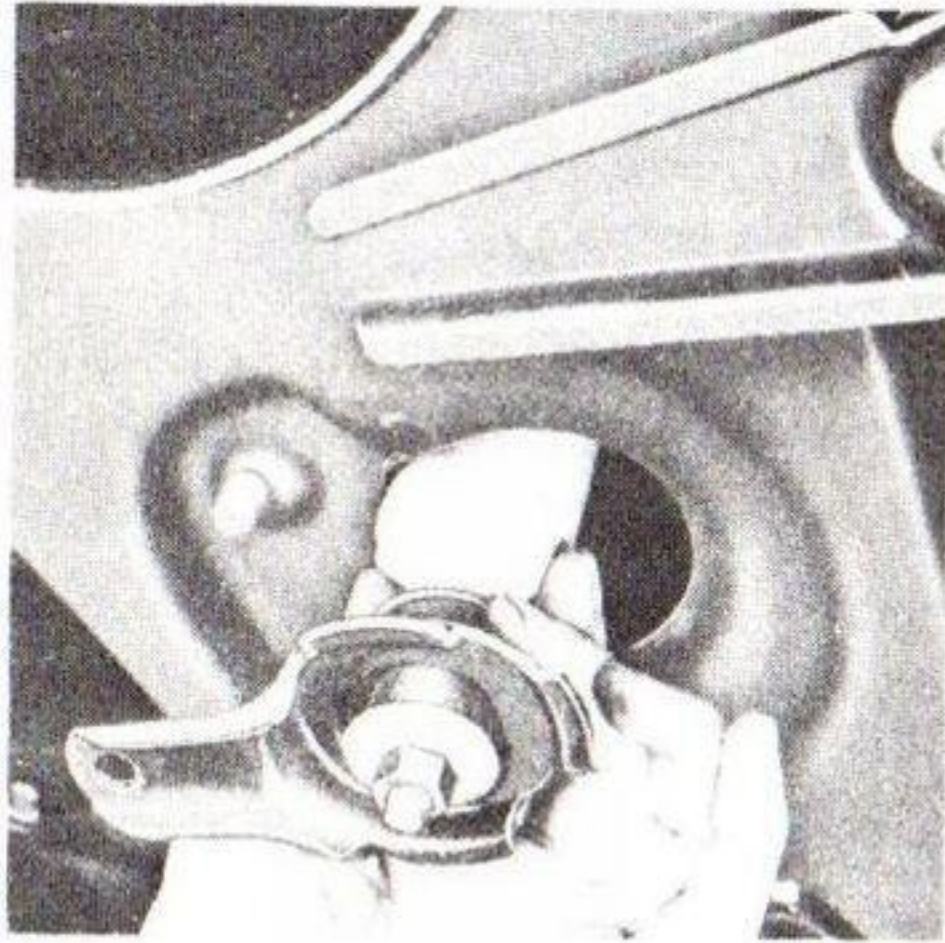

Fig. 53—Removing Front Shock Absorber
- bracket out bottom of spring housing (fig. 53).